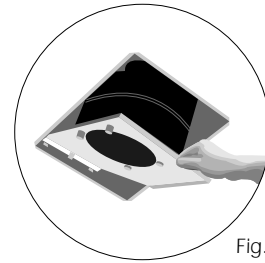

Fig. 3
1. After you have installed the housing in the ceiling, run ducting from the unit to the outside and have made the necessary electrical connections you can reinstall the light housing, venturi and blower in the fan housing (fig. 3). Plug the fan's blower assembly into the fans receptacle before you lift the venturi/blower assembly up into position and secure the venturi using the screw removed earlier. Plug the light housing into the intended wiring harness after the venturi is secure. Rotate the blower wheel by hand to ensure it revolves freely. Install a 100 watt bulb max. and a 7 watt bulb max. for night lighting.